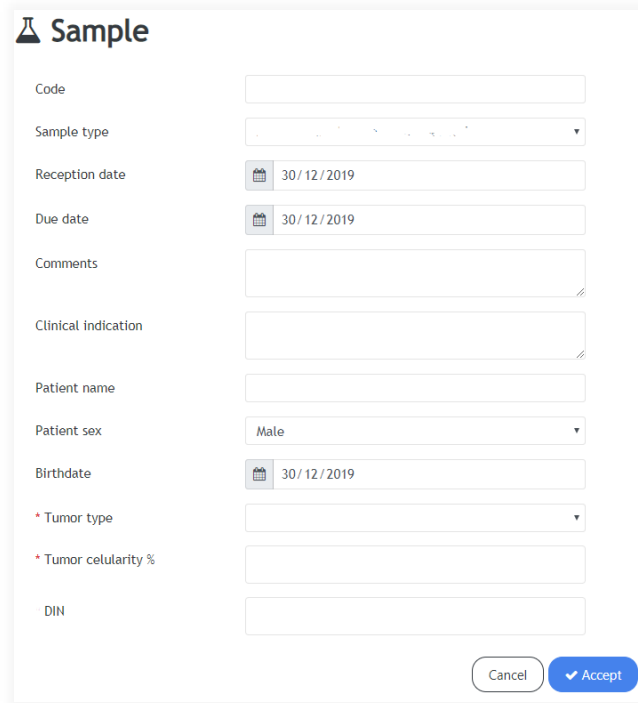

Figure 30. Pop-up screen with the required fields for each sample
- 04** Before processing the sequencing files, it is necessary to fill in some required fields for each sample: tumor type and percentage of tumor cells. To access the pop-up screen with these fields, click the pencil icon . Apart from the required fields, there are additional fields that the user may find useful (Figure 30). Once filled in, click "Accept".